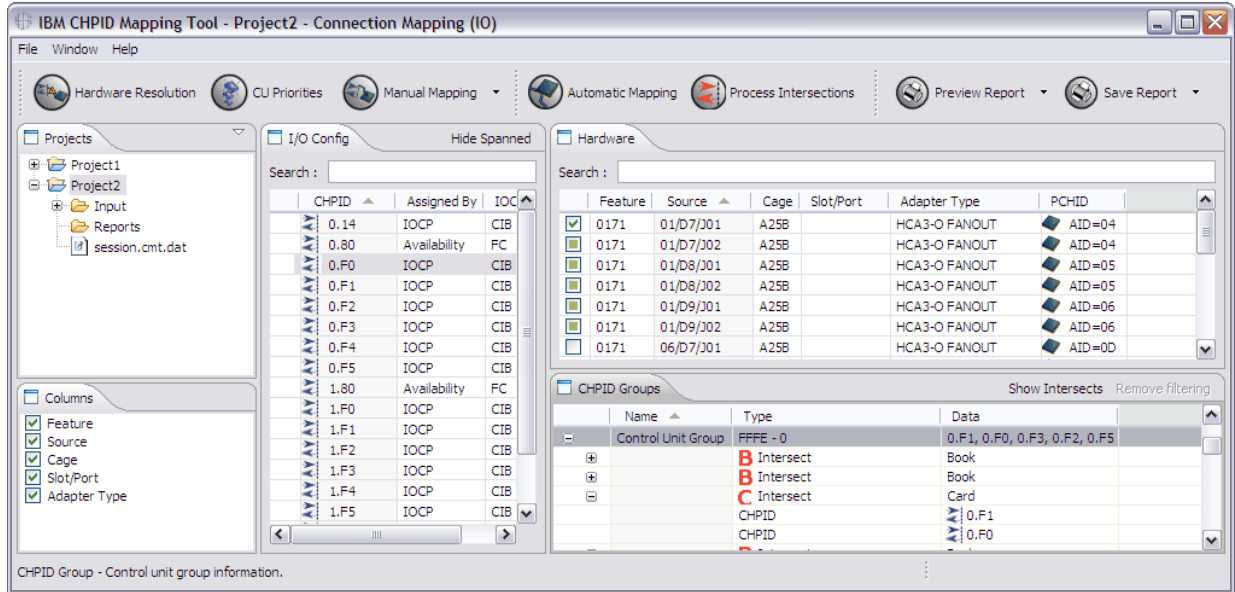

Figure 91. Original priorities and associated intersections
1. If you have not already done so, display the CU Priorities view by clicking **CU Priorities**. Figure 91 on page 74 shows the originally assigned priorities and four associated intersections.